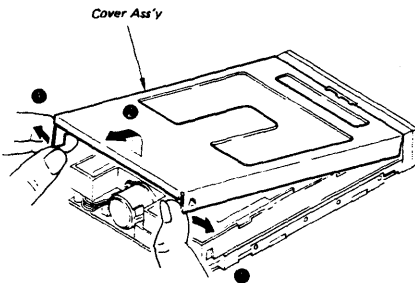

Fig. 4-1 Cover Ass'y Replacement
- Insert your finger into the rear right side portion of the Cover Ass'y as shown in Fig. 4-1, and dislocate the Cover Ass'y from the hook while applying some force to the direction marked with arrow. The whole Cover Ass'y can be taken out.
- Match the projection located in the front side of the Cover Ass'y with square hole of the front panel ass'y and then put the rear of the Cover Ass'y into the proper position. (Refer to Fig. 4-1)